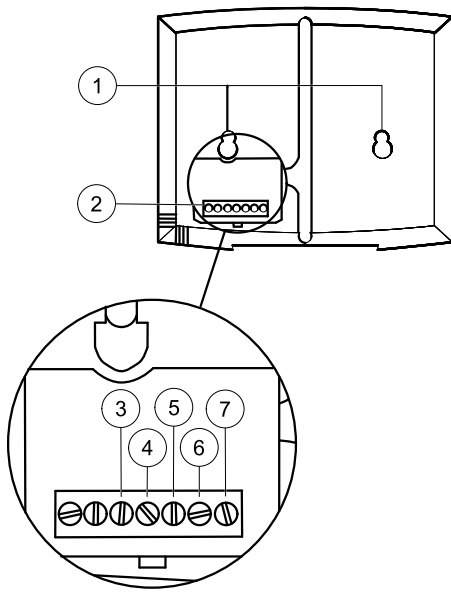

Fig. 14 Control panel wire connections
The control panel is delivered connected to the Corrigo control unit situated in the electrical connection box. Cable length is 10m. In case the control panel needs to be detached from the signal cable it is possible to loosen the wires on the back of the control panel (figure 14).
If needed, drill two holes in the wall to hang the control panel (center to center: 60 mm) (pos.1 figure 14).